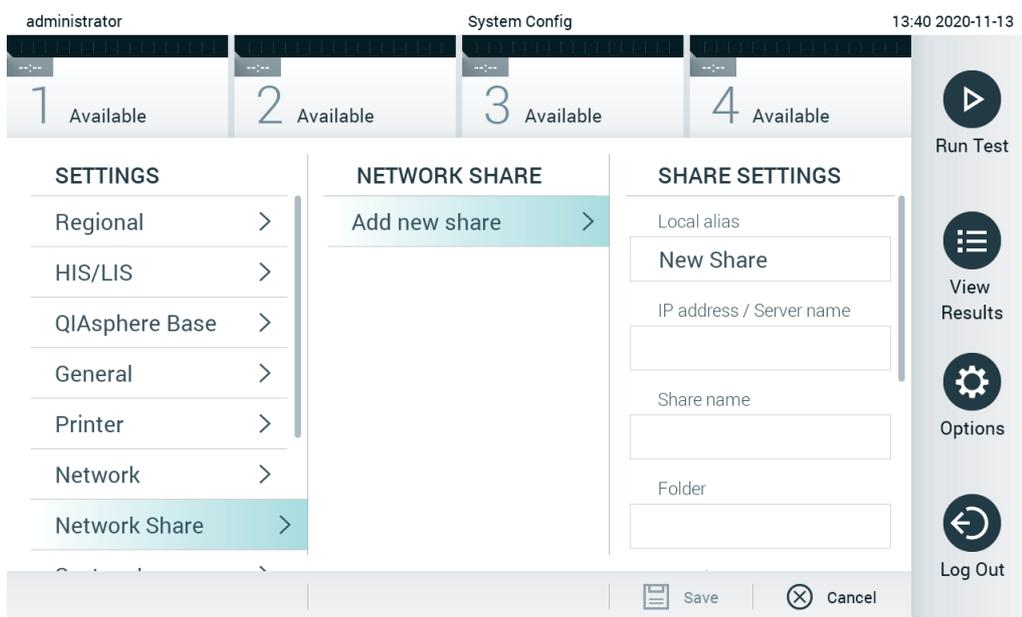

Figure 75. Adding a network share.
3. Press the **Add new share** button (Figure 75).